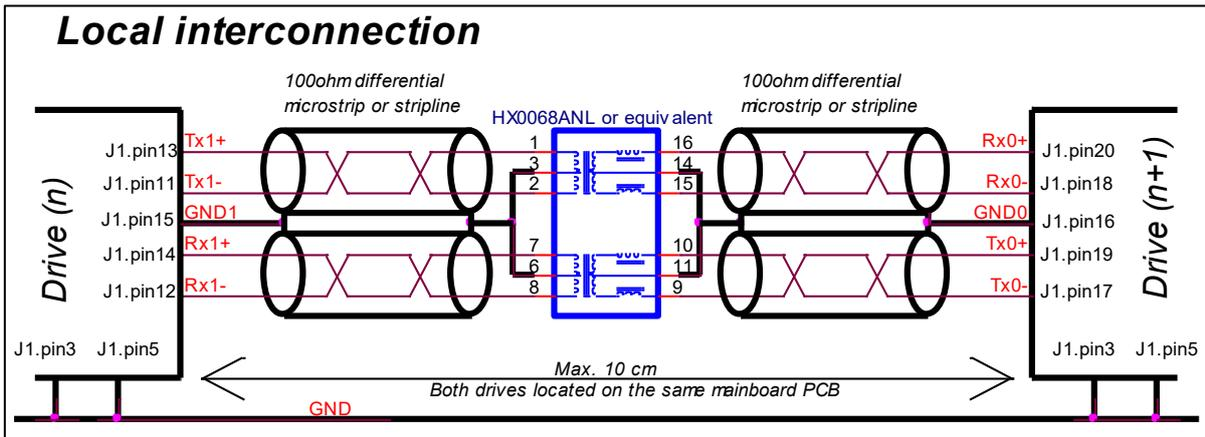

Figure 3-17 EtherCAT wiring for connection between Micro MZ/PZ/LZ drives
- It is recommended to use magnetics in between two drives mounted on the same mainboard PCB, as shown in *Figure 3-17 EtherCAT wiring for connection between Micro MZ/PZ/LZ drives*.